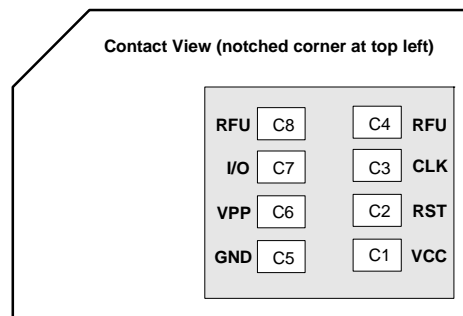

Figure 4-4: SIM card contacts (contact view)
1. See Figure 4-4 on page 31 for SIM card contacts.